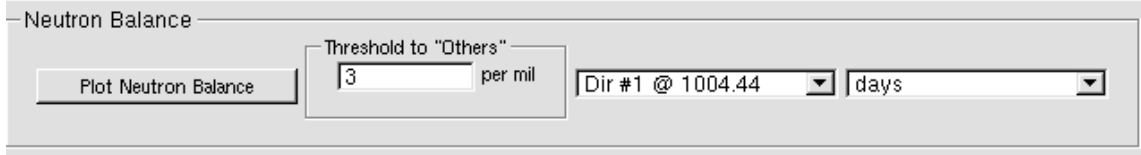
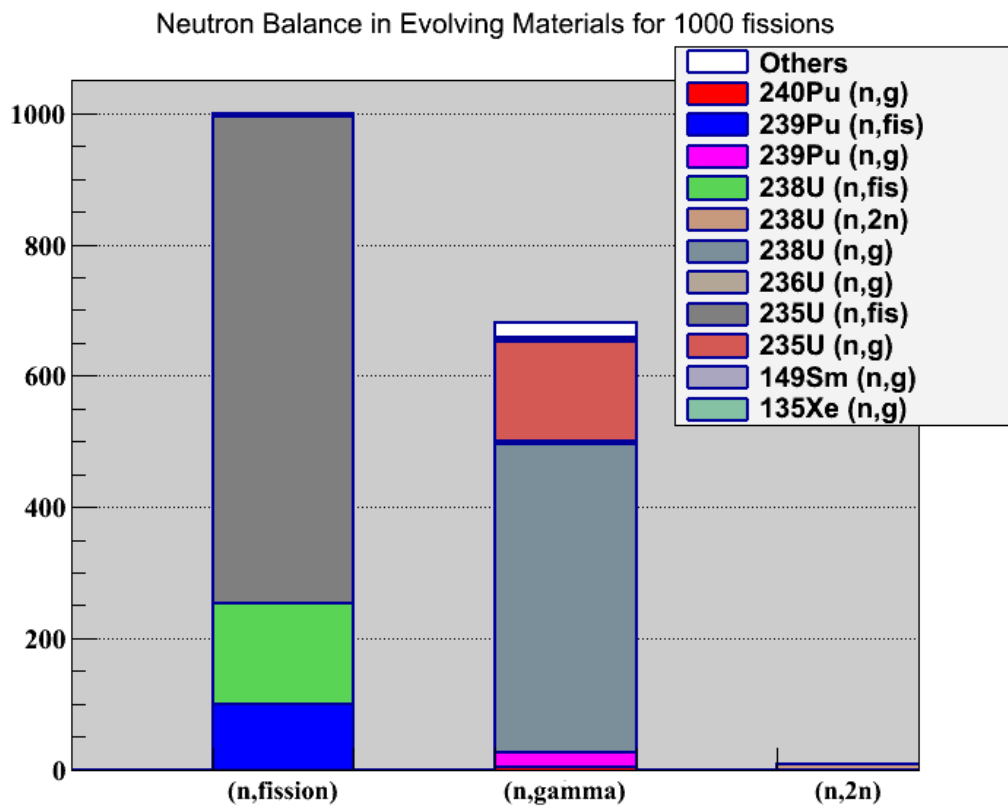

Figure 8.2: Neutron Balance window. In this example, the reaction rates less than 3 per mil are grouped in the “Others” category.
Figure 8.3: Neutron balance plot.
- In the *Reaction Rate* Tab, the “FP” and “Sum of Selected” check boxes allow users to plot total reaction rate of fission products and the sum of selected reaction rates respectively. The generated power can also be obtained using the “*Power*” check box. **Power results are returned in the terminal** when the graph is refreshed. The “*(Un)Select Fissil*” button selects (or unselects) all available fission reactions automatically. Note that released energy per fission values (Q_values) are automatically selected according to the transport code previously used (*DRAGON*, *MCNP* or *Serpent*). In this Tab, it is also possible to plot *Neutron Balance* normalized per 1000 fissions. Once the user has selected the wanted reaction rates (or all reaction rates for the fissile (“*(Un)Select Fissile*” button) or for all nuclei (“(Un)Select All” button), the neutron balance is plotted using histogram bars. The box “Threshold to Others” allow user to group all reaction rates less than the threshold (default 0.1 per mil) in a category named “Others” (see fig. 8.2 and fig 8.3). The “Dir” number is the number of the Dirname argument of MureGui and the number following the “@” character corresponds to the time at which the MC run is done (thus figure 8.2 corresponds to first Dirname at time t=1004.44 days where a MCNP run was performed)